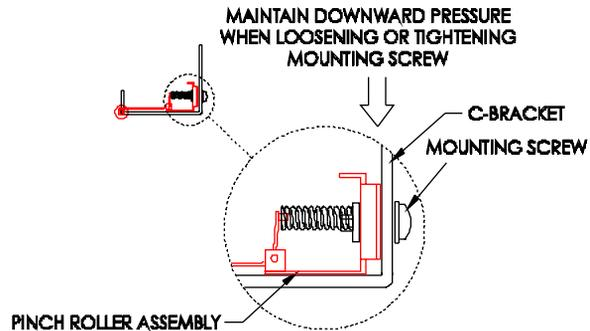

Figure 3-13. Upper Roller Mounting.
7. Not maintaining downward pressure (towards the floor) on the head of each mounting screw at the same time as you loosen or tighten the screw.	7. The upper roller support will not be perfectly level and will not perform its function properly. Each mounting screw must be completely at the bottom edge of its hole in the back of the C-bracket as you loosen or tighten the screw. See Figure 3-13.
4. Following all of the above information precisely will ensure that the Upper Roller Support springs are deflected and the lower tail of the springs will always be pressed against the C-bracket's vertical wall (without a gap) as shown in Figure 3-13.